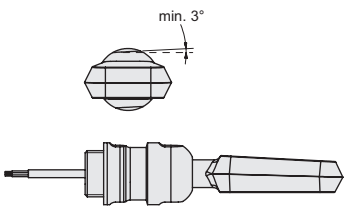

Fig. 4: pms sensor D12-adapter shaft with sensor screw connection BF-pms/A1, all surfaces must be inclined at least 3°
Fig. 4 to Fig. 6). Tighten with lock
- If the sensor is cleaned wet, all surfaces must be inclined at least 3° from the horizontal alignment so that the cleaning agents can run off completely (see Fig. 4 to Fig. 6). There is a risk that condensate or dripping water might drip from the sensor and mounting brackets into the product area.